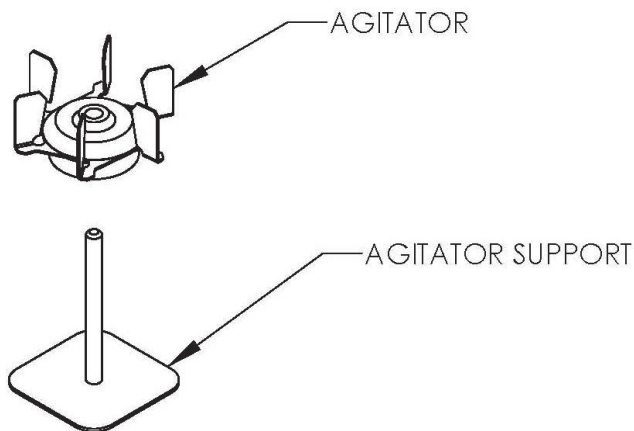
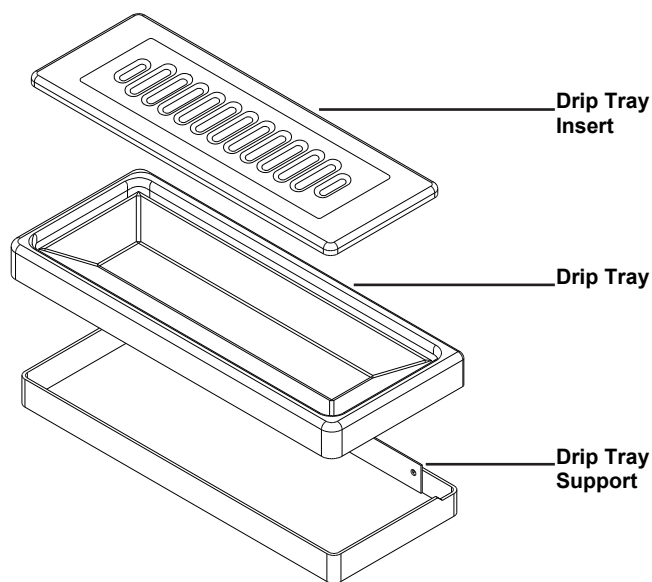

Fig. 12
Fig. 13
9. Remove the mix pan lids, mix pan agitator assemblies (Fig. 12), drip tray and drip tray insert (Fig. 13).